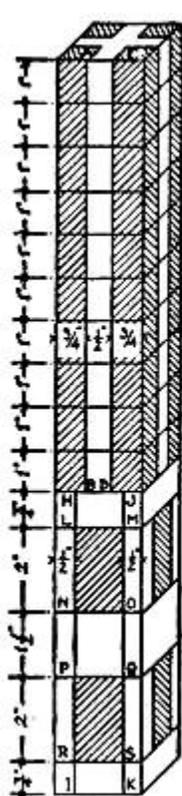

FIG. 394.
In making the first chain and rattle, you had better use a pine block, as hard wood is not so easy for a beginner to handle. Therefore, for a first attempt, select a piece of sound pine free from blemishes, and plane it down to the dimensions, seventeen inches long, two inches wide, and two inches thick. With a lead-pencil mark off ten divisions one inch apart, running the lines around the four sides of the block (see Fig. 394). Then draw two lines lengthwise on each side of the block, as shown at *AB* and *CD*, making them one-half inch apart and three-quarters of an inch from each edge. With a chisel, cut out the four corners of the block down to the tenth line, as represented by the shading in Fig. 394.
**The Rattle** is to be made from the lower portion of the block. This part of the figure is more difficult to cut than the chain. First draw the two lines marked *HI* and *JK* in Fig. 394 one-half inch from the edges; then draw the cross lines *LM*, *NO*, *PQ*, and *RS*, as shown in the illustration. These lines should be similarly drawn upon the other three sides of the block. Remove the wood from the spaces shaded in the drawing, and you will then have left a centre solid block from which to cut the ball. Gently round the corners of this, and then gradually separate it from the surrounding framework. When this has been accomplished, the centre block will slip up and down. Now continue cutting the block until it is a perfect round ball, but be careful not to make it small enough to fall out of the frame, for that would spoil the entire piece of work.